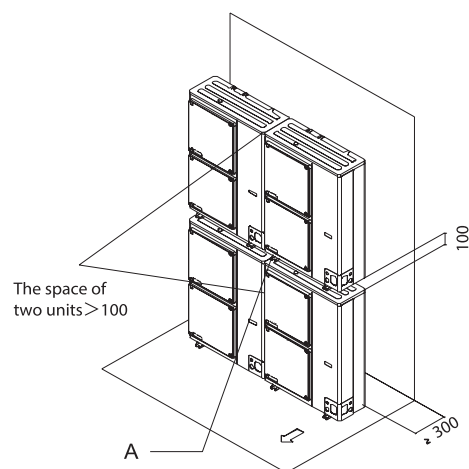

Figure 20
- An obstacle exists at the air intake side (see Figure 20)